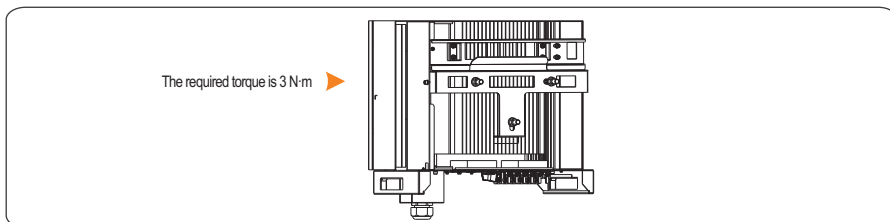

Figure 4.12 Securing the inverter
**Step 3** Tighten one screw at the right of the inverter and the retaining screw on the rear panel, and ensure that they are secured, as shown in Figure 4.12.